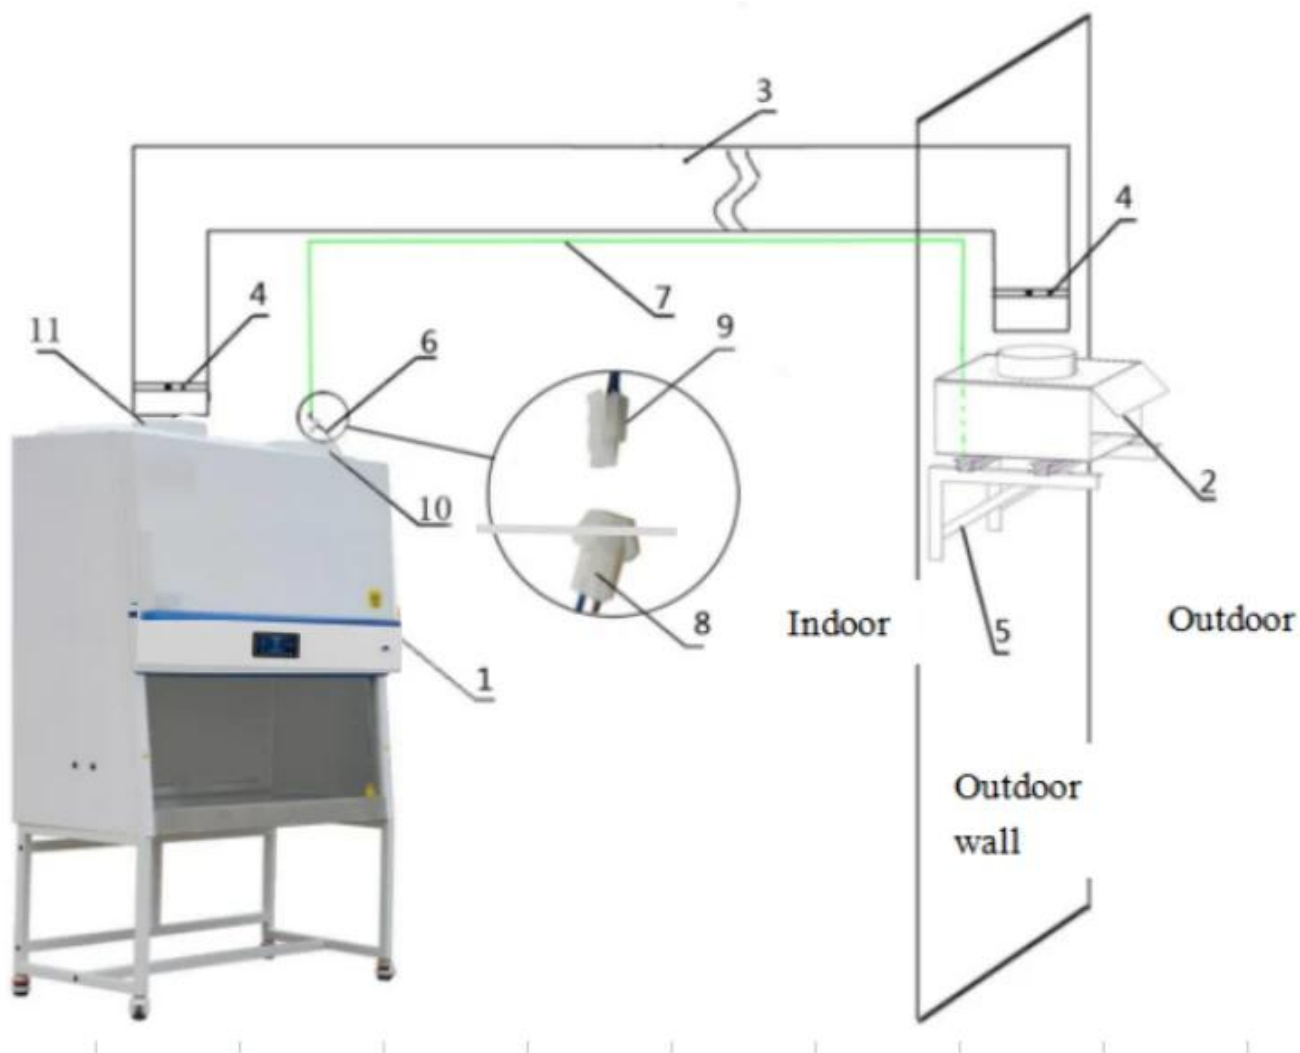

Fig 1
- (1) After connecting the host to the base, place it in the original position.
- (2) Install the external fan mounting bracket on the outdoor wall adjacent to the safety cabinet (must be a solid wall) (when installing two external fan mounting brackets, carefully compare the mounting holes on the outer fan) with expansion screws Fix the outer fan mounting bracket on the outdoor wall surface.
- (3) Place the external exhaust fan on the outer exhaust fan mounting bracket, and use the M8*25 hex head bolt, flat washer 8, spring washer 8, and M8 nut in the accessory box to fix the outer exhaust fan to the outer exhaust fan mounting bracket (to ensure Safety, please operate by professional installers).
- (4) Pull out the pipe and pull one end into the air outlet of the safety cabinet, as shown in Figure 1, tighten the pipe clamp.
- (5) Insert the other end of the pipe through the wall or window to the outside into the suction port of the outer exhaust fan of Figure 1, and tighten the pipe clamp.
- (6) Extending the control line of the external exhaust fan into the room, and connecting the outlet of the external exhaust fan control line to the control line of the external exhaust fan at the top of the main